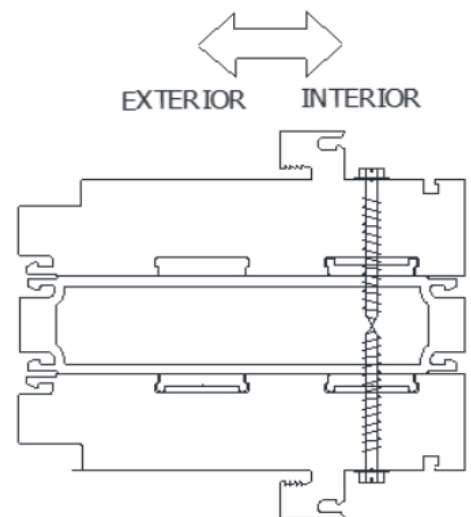

Figure 5
5. Clamp the French Door mullion to the door frame. Pre-drill the mullion with a 9/64" drill bit. Attach mullion to door frame using assembly screws (not included; Figure 5). Do not over tighten assembly screws. This can cause frame distortion.
7. Clamp the sidelite to the French Door mullion. Attach the sidelite to the mullion using assembly screws (not included; Figure 5). Do not over tighten assembly screws. This can cause frame distortion.